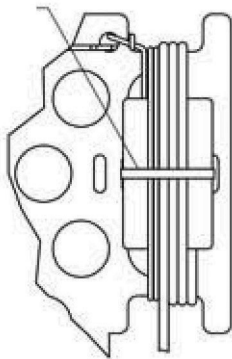

Figure 4-11. Strap the brick and cord in place using a zip tie or hook-and-loop tie (not included).
Step 7: Hold the brick and cords in place by strapping them down using a zip tie or a hook-and-loop tie (see Figure 4-11, page 16).